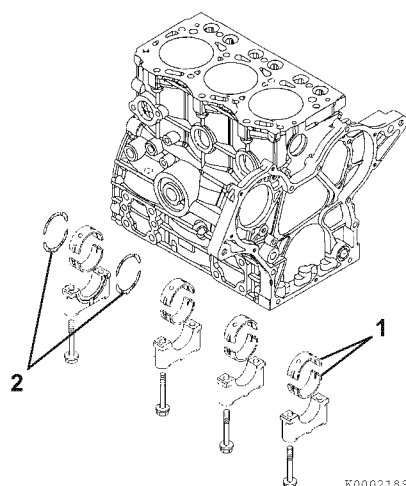

Figure 6-61
12. Remove the bearing inserts (1, **Figure 6-61**) and thrust bearings (2, **Figure 6-61**).